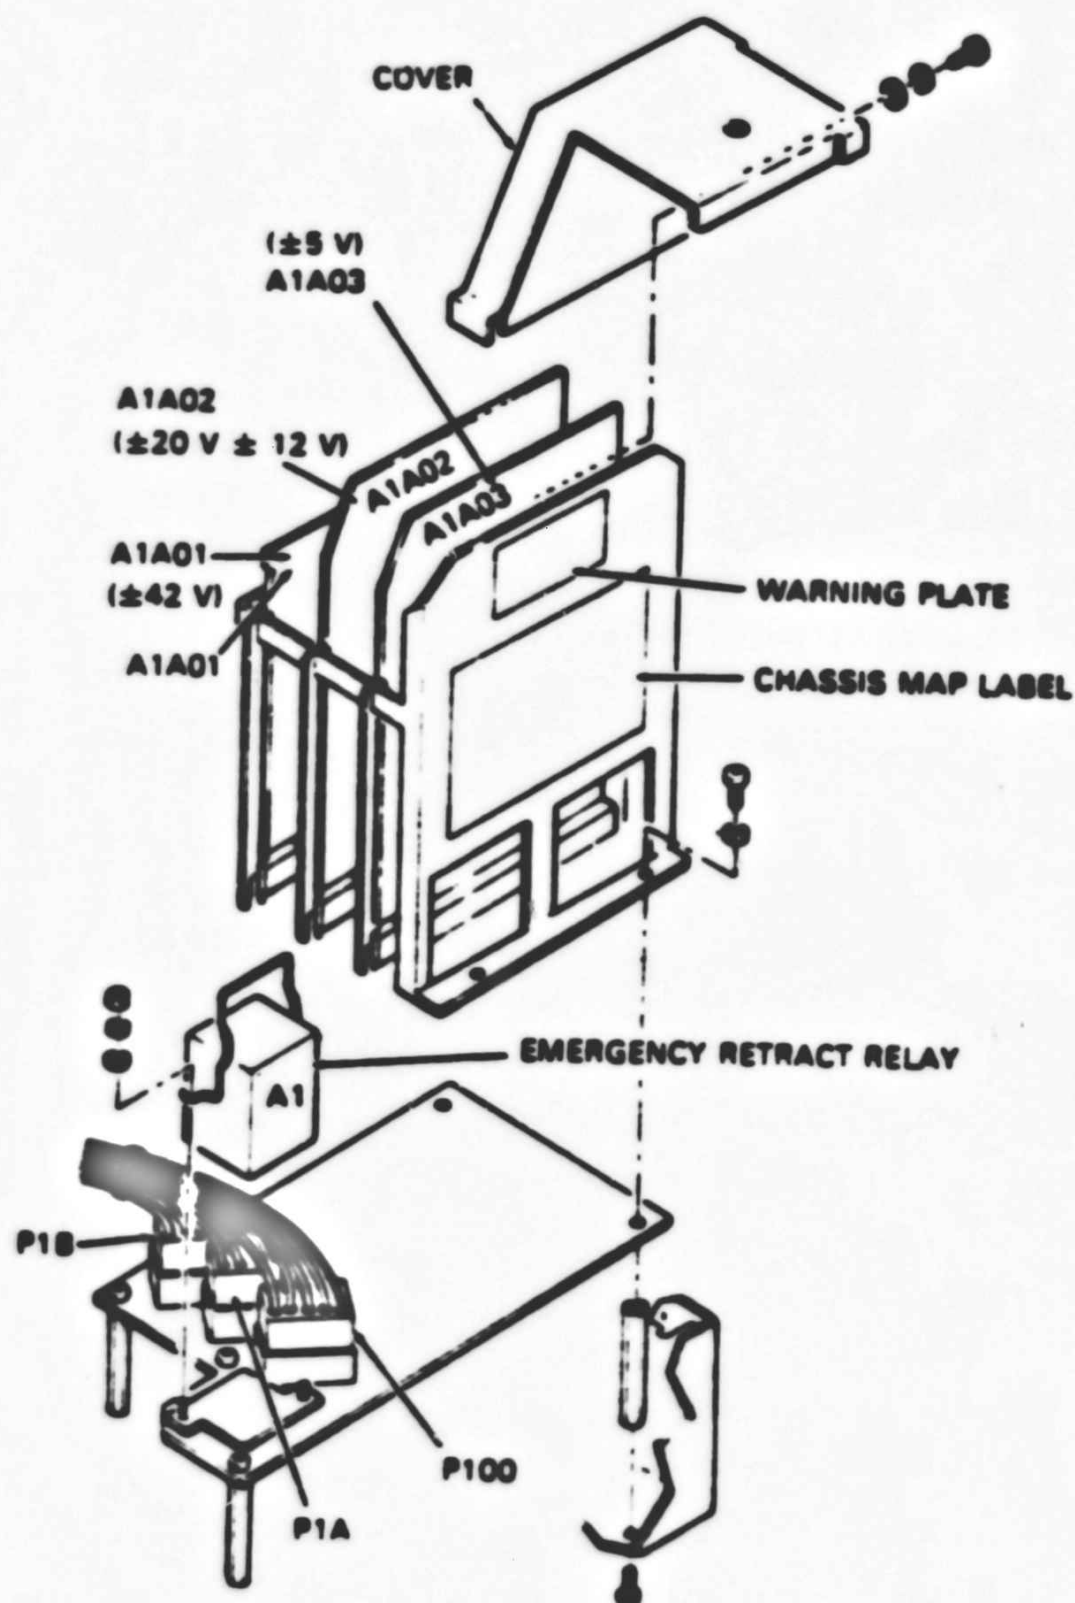

FIGURE 7
9. Disconnect Transformer connector P100 from the power supply assembly, refer to FIGURE 7.
41. The $+5V$ output should read $+5.0 V$ ($\pm 0.05V$). If not, adjust the $+5 V$ potentiometer on card A1A03 (FIGURE 7) until it is within specification.
42. The $-5V$ output should read $-5.0V$ ($\pm 0.05V$). If not adjust the $-5V$ potentiometer on card A1A03 (FIGURE 7) until it is within specification.
43. If any adjustment was necessary in the preceeding two (2) steps, recheck both outputs.